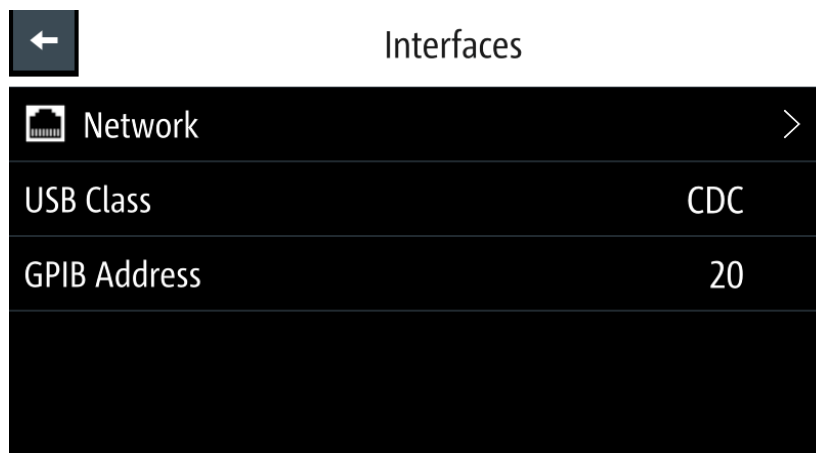

Figure 6-33: Interfaces dialog
1. Select "Network" from the Figure 6-33. The R&S NGL/NGM displays the "Network" dialog.
1. Select "GPIB Address" from the Figure 6-33.